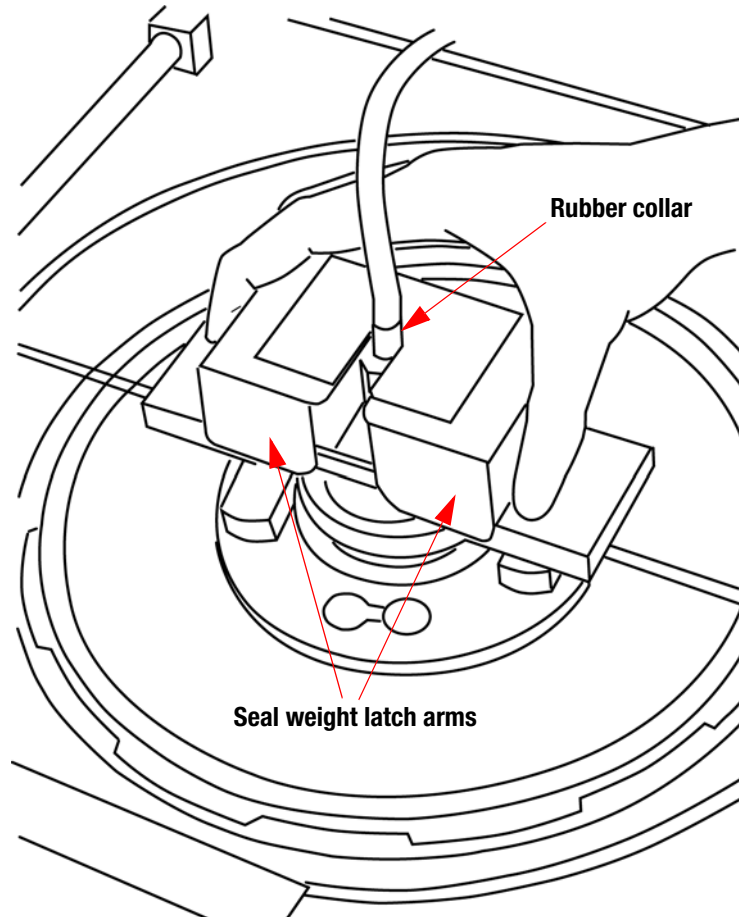

Figure 6-11: Installing the seal weight
- 26 While lifting the seal weight on its guide posts, slide the rear cover to its closed position (Figure 6-11).
- 27 While continuing to hold the seal weight up, slide the front cover to its closed position, and then lower the seal weight (Figure 6-11).